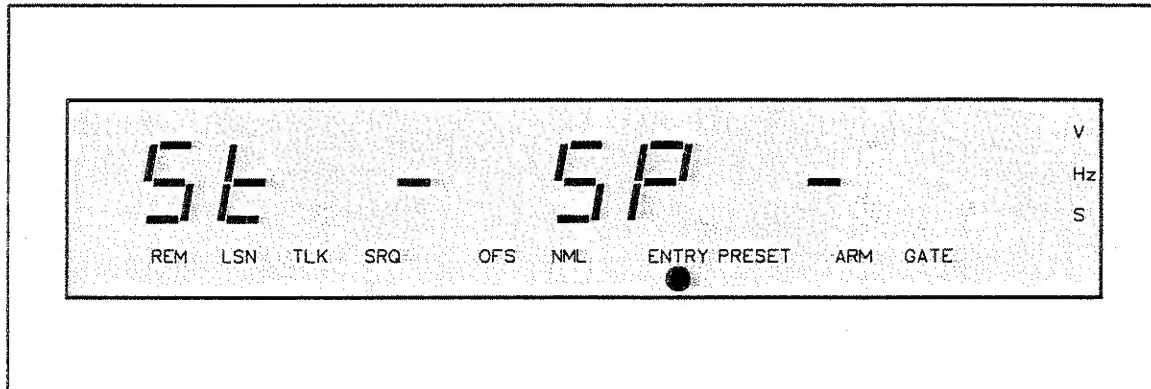
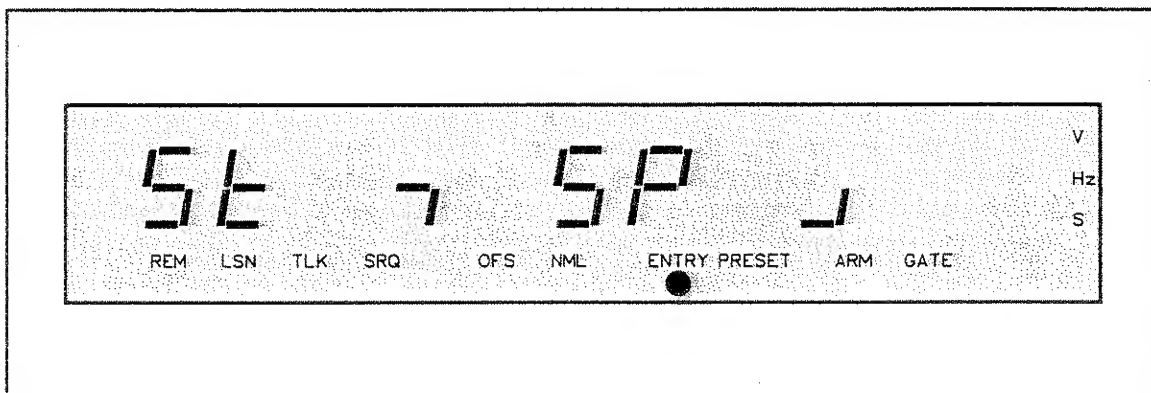

Figure 3-34. EXTERNAL ARM SELECT Entry Mode Display, Arming Off
Figure 3-35. EXTERNAL ARM SELECT Display, Arming States Selected
3-196. External arming can be used to specify the start and/or stop of a measurement, by a signal that is not directly involved in the measurement. When external arming is enabled, a signal must be connected to the ARM input connector to arm the gate to open and/or close. Pressing the EXT ARM SELECT key displays the arming status, shown in Figure 3-34, and allows the START ARM (open gate) and/or STOP ARM (close gate) states to be changed.
3-197. The arming status is represented as "St" (START ARM) and "SP" (STOP ARM). The states are defined by "—" (arming off), shown in Figure 3-34; and "7" (arming set on negative slope), and "┐" (arming set on positive slope) as shown Figure 3-35 slope). The channel A SLOPE key controls the START ARM, and the channel B SLOPE key controls the STOP ARM.
2. The counter displays, "St" for start arm, "SP" for stop arm, and the current start/stop arm states (see *Figure 3-35*).
3. The ENTRY light flashes, indicating the arming states may be changed (see *Figure 3-35*).
*Figure 3-35* shows the EXT ARM SELECT entry mode display, with the START ARM set negative, and the STOP ARM set positive.